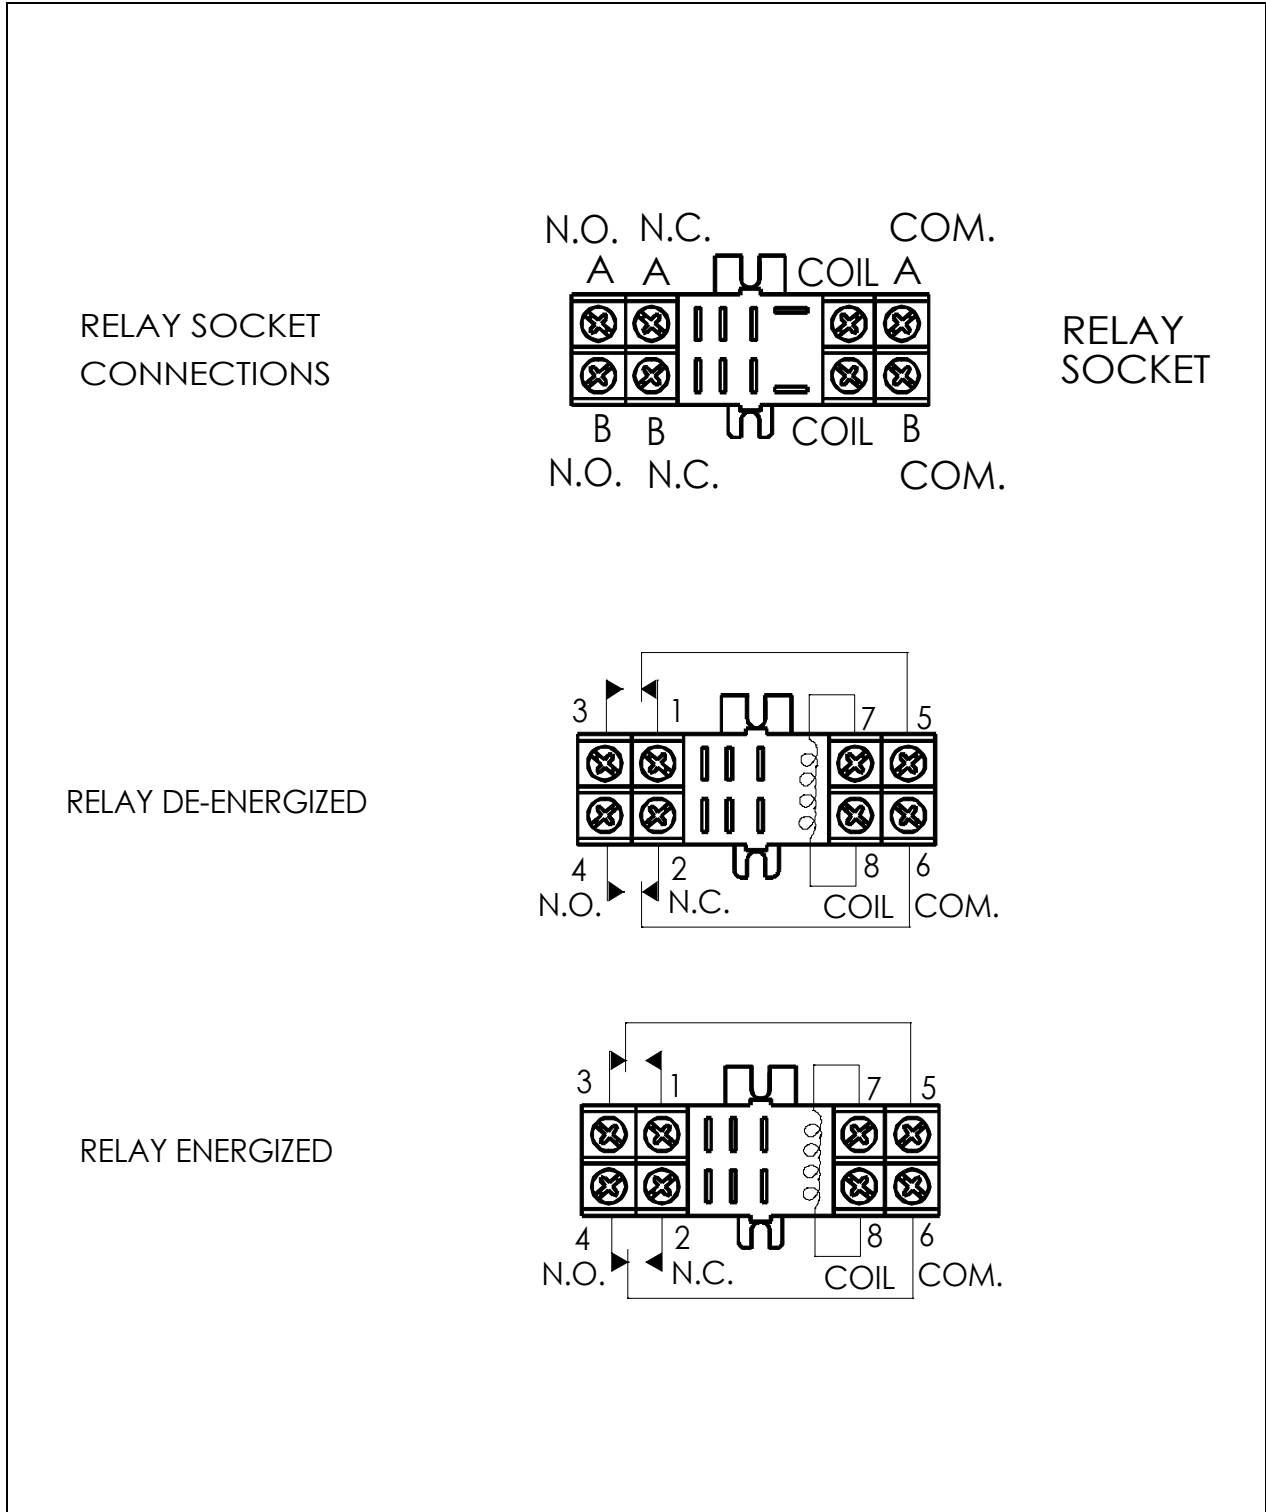

Figure 5: Relay contacts wiring diagram.
**RELAYS:** There are up to 3 DPDT relays which activate with high alarm, low alarm and optional fail respectively causing contact transfer. The contacts are available for activating a remote alarm and/or, blower motors where moving parts are fully guarded, pumps or lighting circuits. Relays are rated 1/3 hp @ 120 VAC/240 VAC, 10 Amps @ 28 VDC/120 VAC/240 VAC resistive. For relay contact arrangement see Figure 5. The high and low alarms relay coils are normally de-energized and the optional fail relay coil is normally energized.